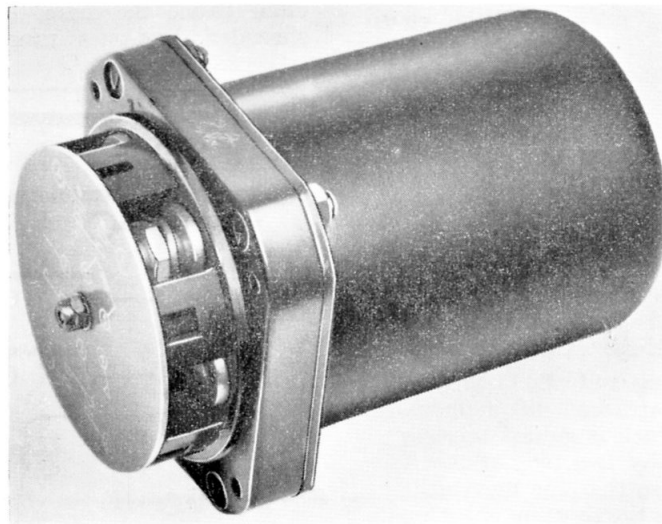

Fig. 1. Magnetic relay switch, Type T100B
1. The relay, Type T100B (*fig. 1*) is a sealed, double pole, normally-open unit originally designed for use on aircraft in conjunction with actuators.